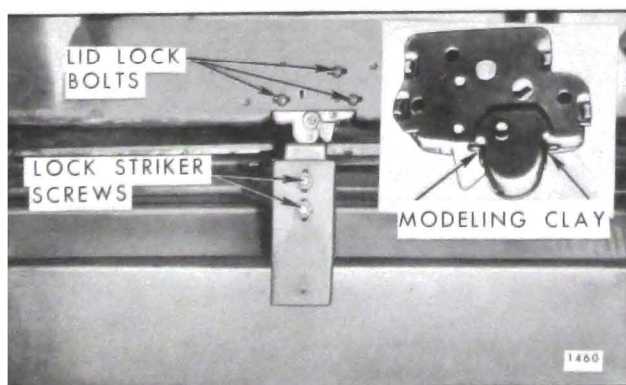
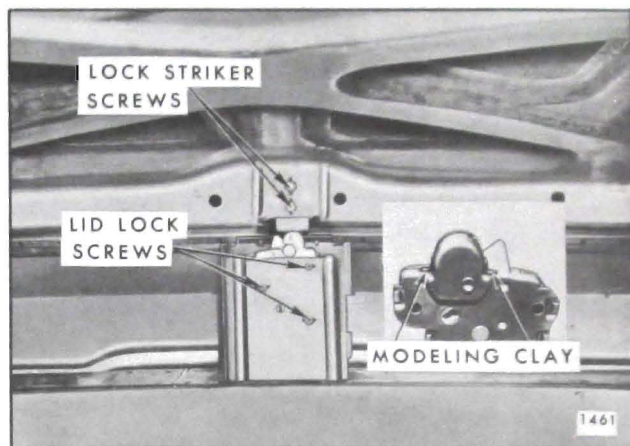

Fig. 8-13 —Rear Compartment Lid Lock and Striker
Fig. 8-14 —Rear Compartment Lid Lock and Striker
3. Remove rear compartment lid lock attaching bolts and remove lock from lid (Fig. 8-13 and 8-14).
2. Remove striker attaching screws and remove striker (Fig. 8-13 and Fig. 8-14).
1. Insert a small quantity of modeling clay on frame of lock at both sides of the lock bolt (Figs. 8-13 and 8-14). Close lid with moderate force.